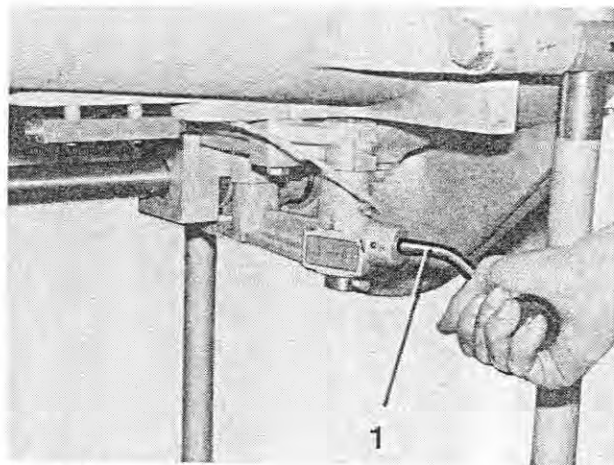

Fig. 111
6. Using the lever (Figure 111/1), disconnect the worm drive when machines with a worm trough are used.